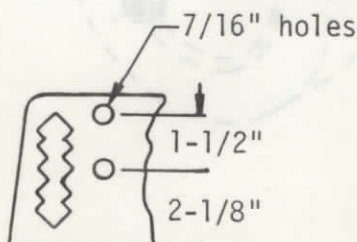

Fig. 2
- 3) Two mounting holes are required in each deck wheel pad. These holes exist in some decks and others they do not. The holes must be positioned and drilled with a 7/16" drill bit as illustrated in Fig. 2 if they do not exist.